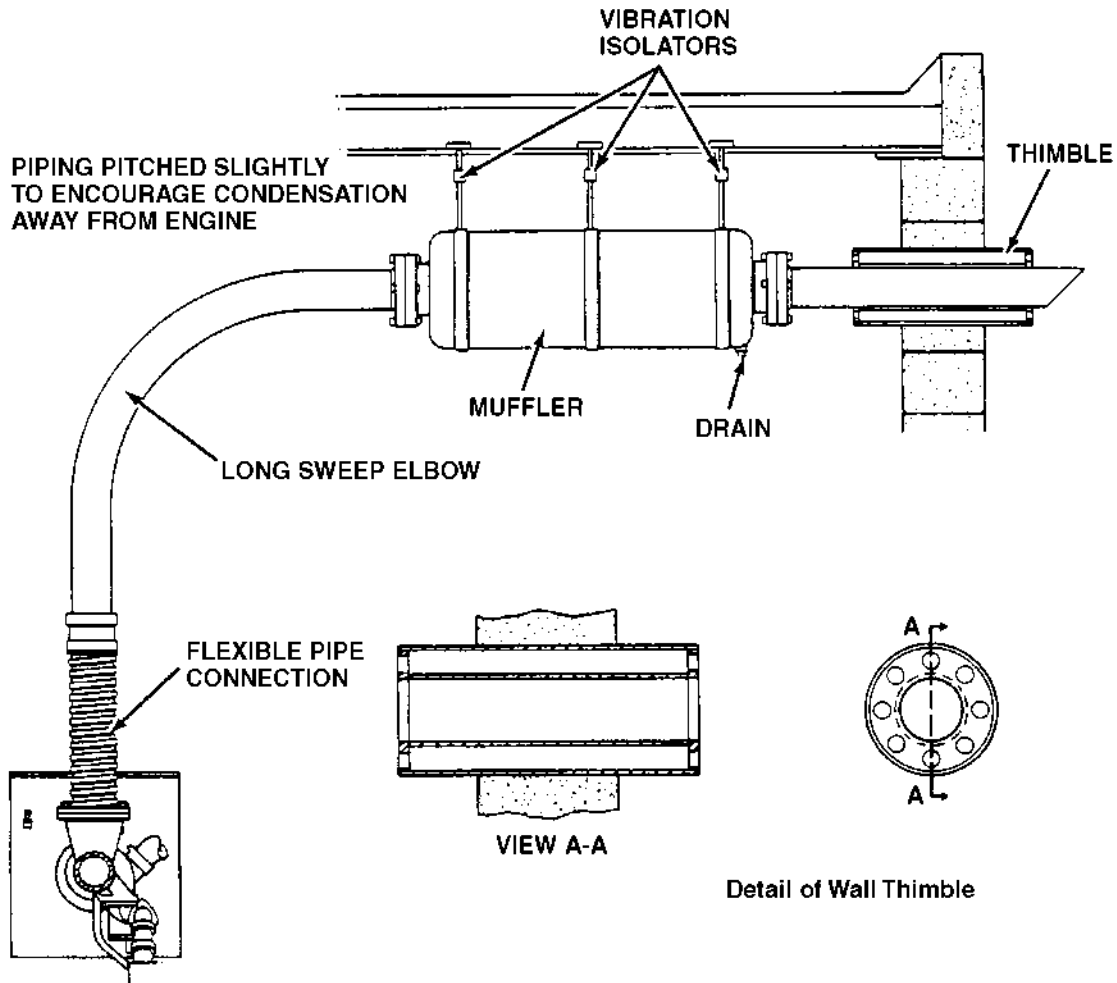

Figure 10.
- Install metal thimble guards for exhaust piping passing through wooden walls or roofs. The thimble guards should be 305 mm (12 in.) greater in diameter than the exhaust pipes, see Figure 10.
- Gas engines burning natural gas creates one pound of water for each 10 ft³ of natural gas burned. For this reason long runs of exhaust piping require traps to drain moisture. Traps installed at the lowest point of the line near the exhaust outlet prevent rain water from reaching the engine. Slope exhaust lines from engine to the trap so condensation will drain, see Figure 10.